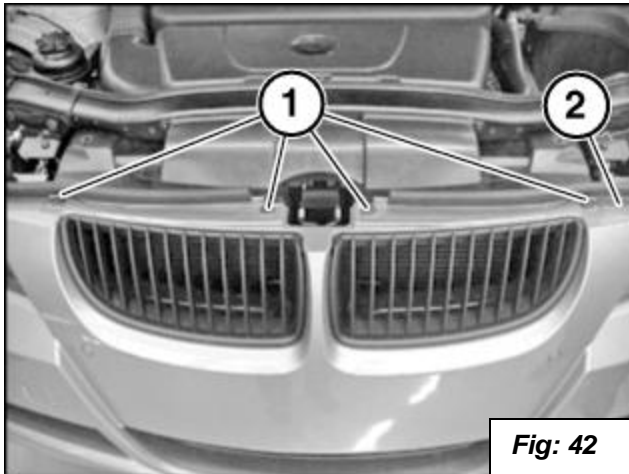
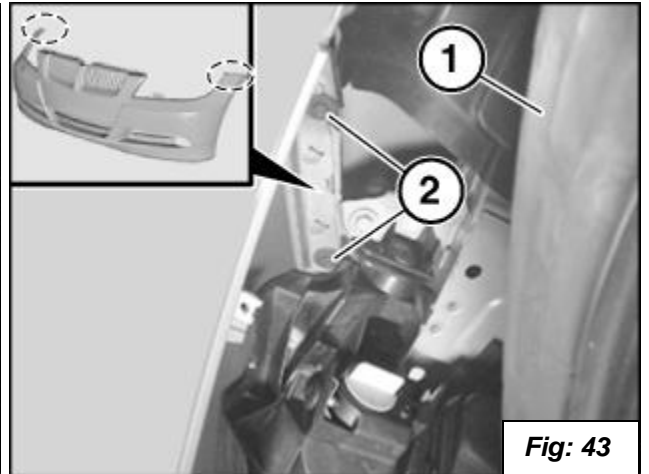

Fig: 42
Fig: 43
50. Fasten the top screws (1) as shown in figure 42 and the side screws (2) as shown in figure 43.